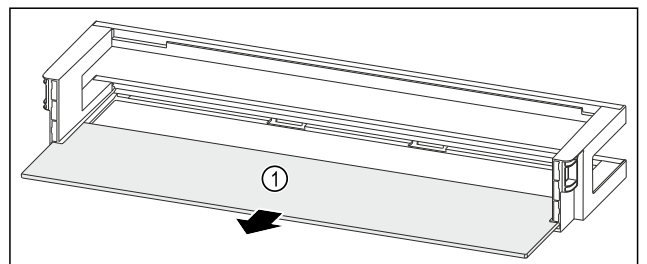

Fig. 129 Door rack with shelf
- ▶ Remove the shelf *Fig. 129 (1)*.